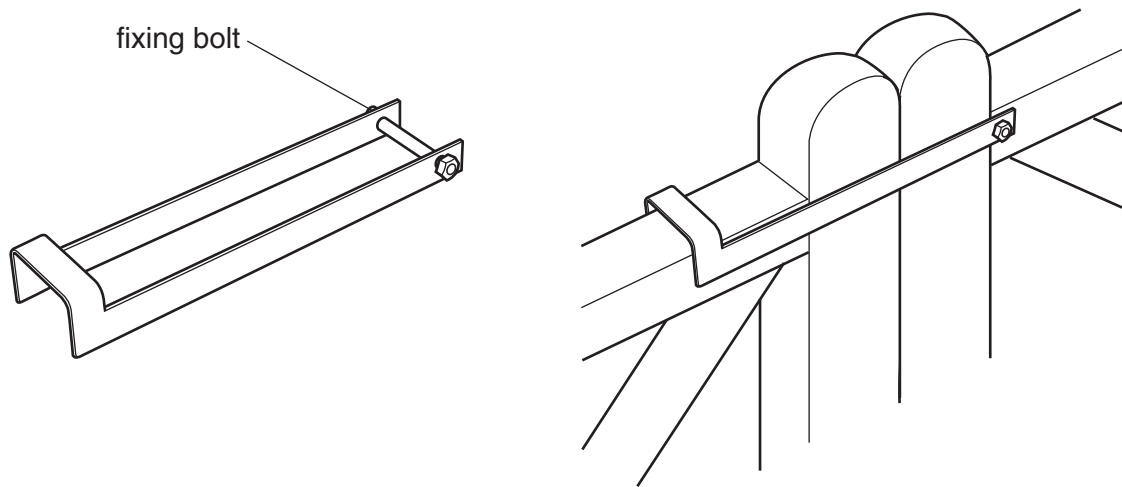

Fig. 4
- 3 Fig. 4 shows views of a 'throw over' latch for a gate. The latch is made from 3 mm thick galvanised steel.